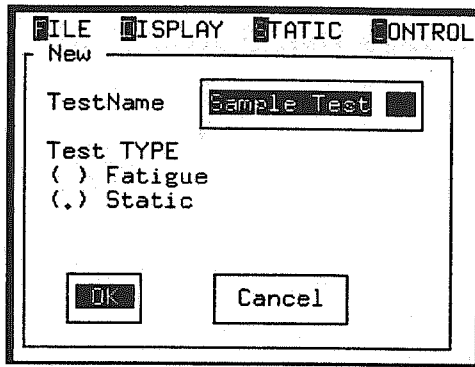

Figure 2-5 New Test Screen
Step 1: Access the File menu, New option. The New Test screen is displayed, Figure 2-5.